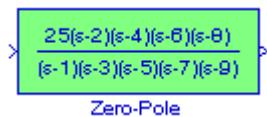

Figure 3.10. The Zero–Pole block specified in vector form
1. If each is specified as an expression or a vector, the icon shows the transfer function with the specified zeros, poles, and gain. If we specify a variable in parentheses, the variable is evaluated. For example, if in the Function Block Parameters dialog box we specify Zeros as [2 4 6 8], Poles as [1 3 5 7 9], and Gain as 25, the block looks like as shown in Figure 3.10.*